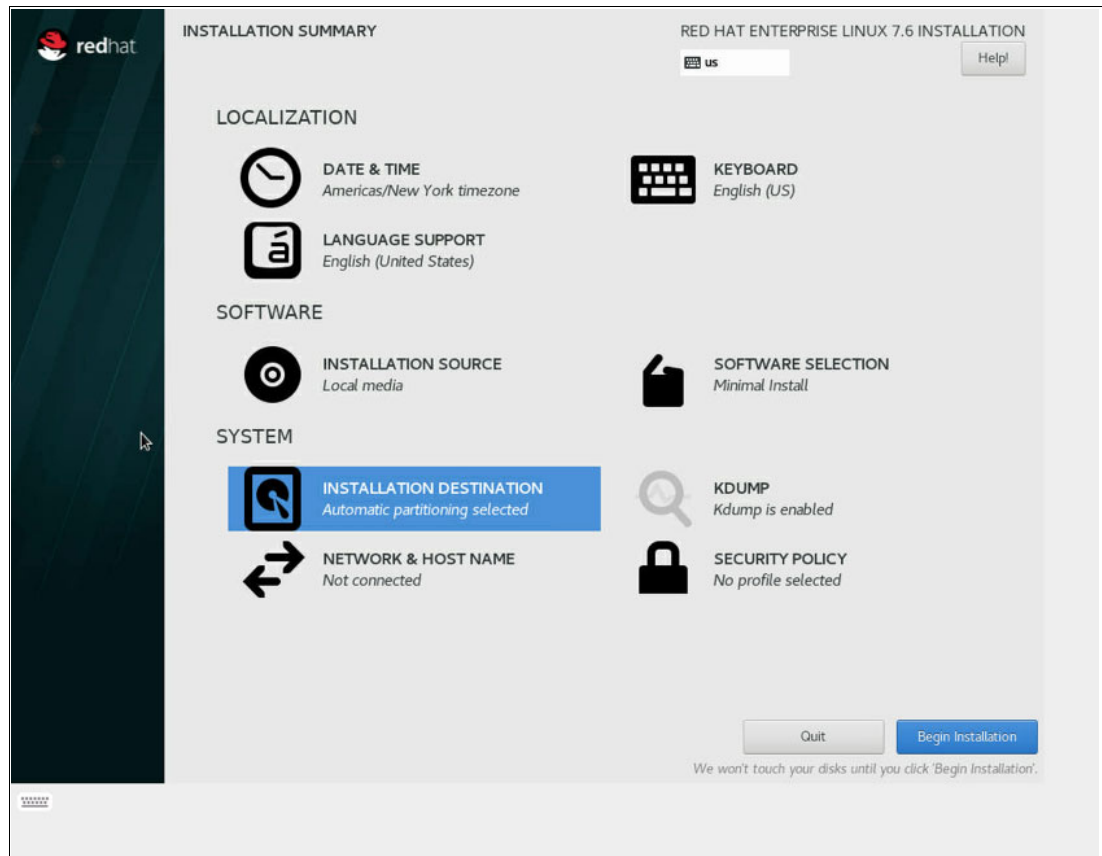

Figure 4-27 Red Hat Enterprise Linux 7.6 Installation window: **INSTALLATION DESTINATION**
1. Set the disk layout by clicking **INSTALLATION DESTINATION**, as shown in Figure 4-27.